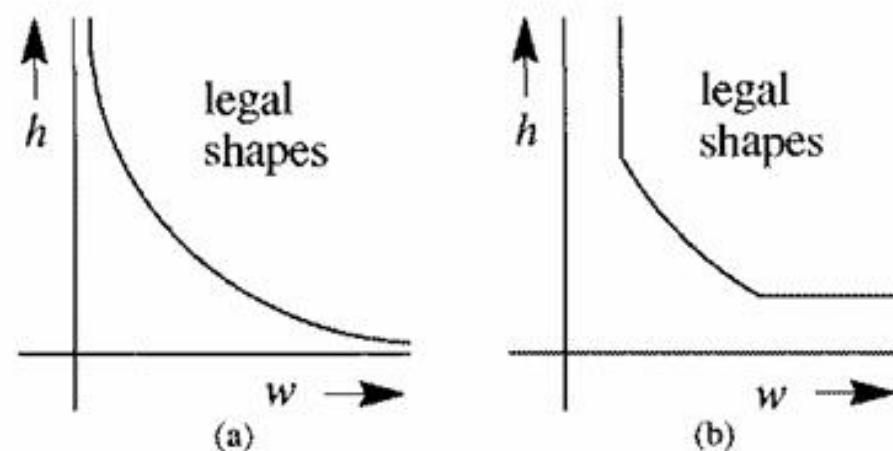

Figure 8.8 Shape functions for a cell without (a) and with (b) minimal width/height restrictions.
- **Figure 8.8(a/b)**: Legal shape regions for flexible cells.